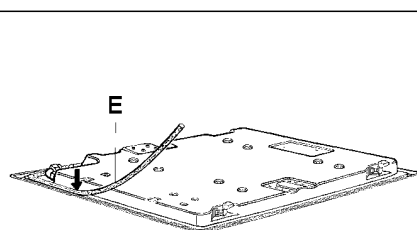

FIG. 5
- Overturn the hob and correctly position seal "E" (fig. 5) under the edge of the hob itself, so that the outer part of the seal itself perfectly matches the outer perimetral edge of the hob. The ends of the strips must fit together without overlapping.